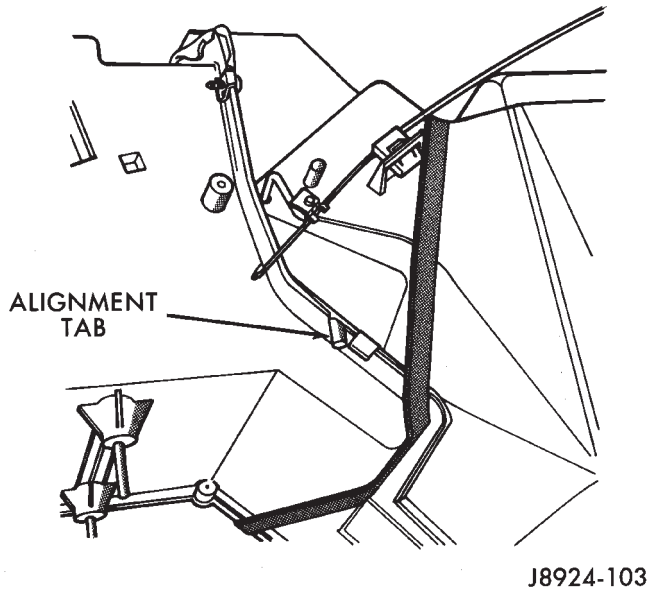

Fig. 26 Evaporator Housing Alignment Tab
(1) Position the evaporator/blower housing into place, being sure to line up the housings using the provided alignment tabs (Figs. 26 and 27).